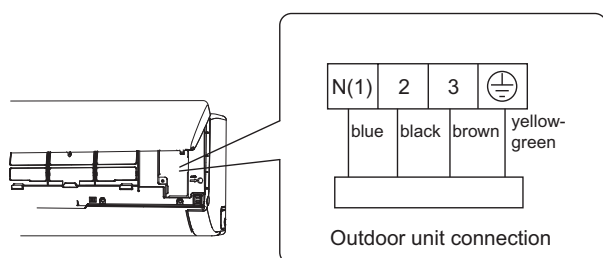

Fig.13
- (3) Remove the wire clip; connect the power connection wire to the wiring terminal according to the color; tighten the screw and then fix the power connection wire with wire clip.(As show in Fig.13)